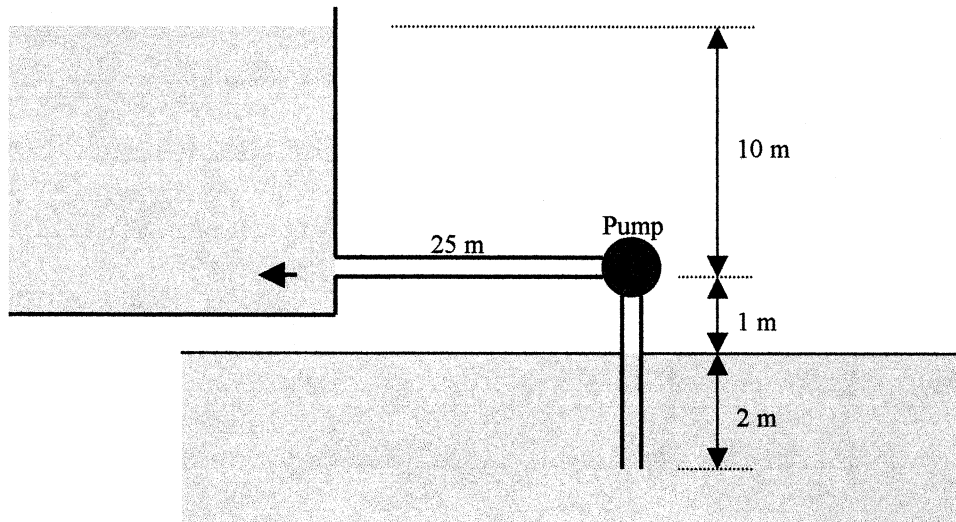

Fig. C11.4
**C11.4** The system of Fig. C11.4 is designed to deliver water at  $20^\circ\text{C}$  from a sea-level reservoir to another through new cast iron pipe of diameter 38 cm. Minor losses are  $\sum K_1 = 0.5$  before the pump entrance and  $\sum K_2 = 7.2$  after the pump exit. (a) Select a pump from either Figs. 11.7a or 11.7b, running at the given speeds, which can perform this task at maximum efficiency. Determine (b) the resulting flow rate; (c) the brake horsepower; and (d) whether the pump as presently situated is safe from cavitation.